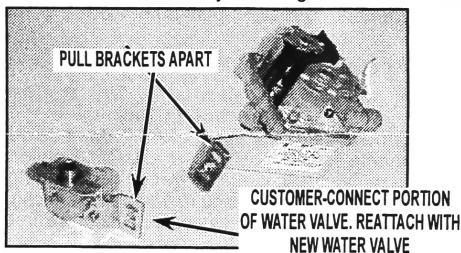

FIGURE 2: SEPARATED WATER VALVE BRACKET.
5. Prepare new water valve by removing customer-connect portion from original main valve body. Customer-connect portion of water valve can be removed by pulling it away from main water valve body. See *Figure 2*.